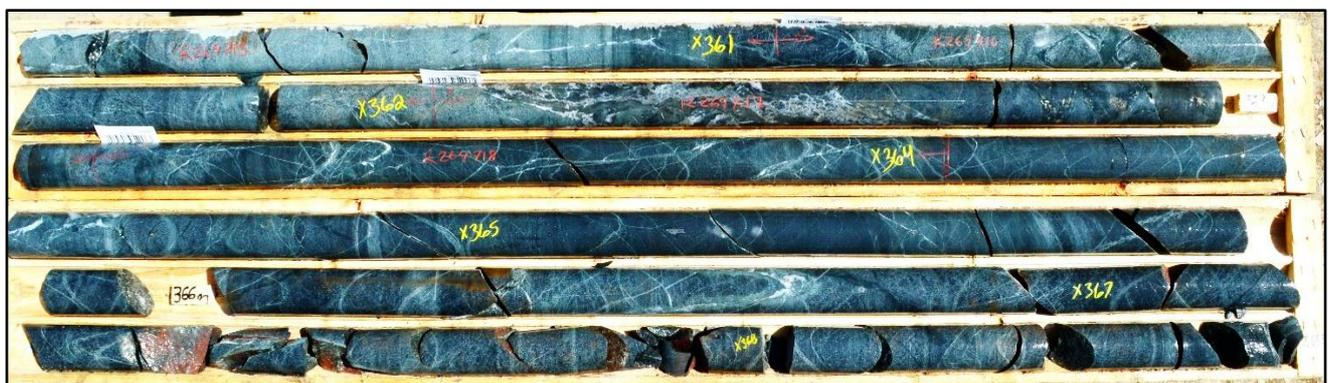
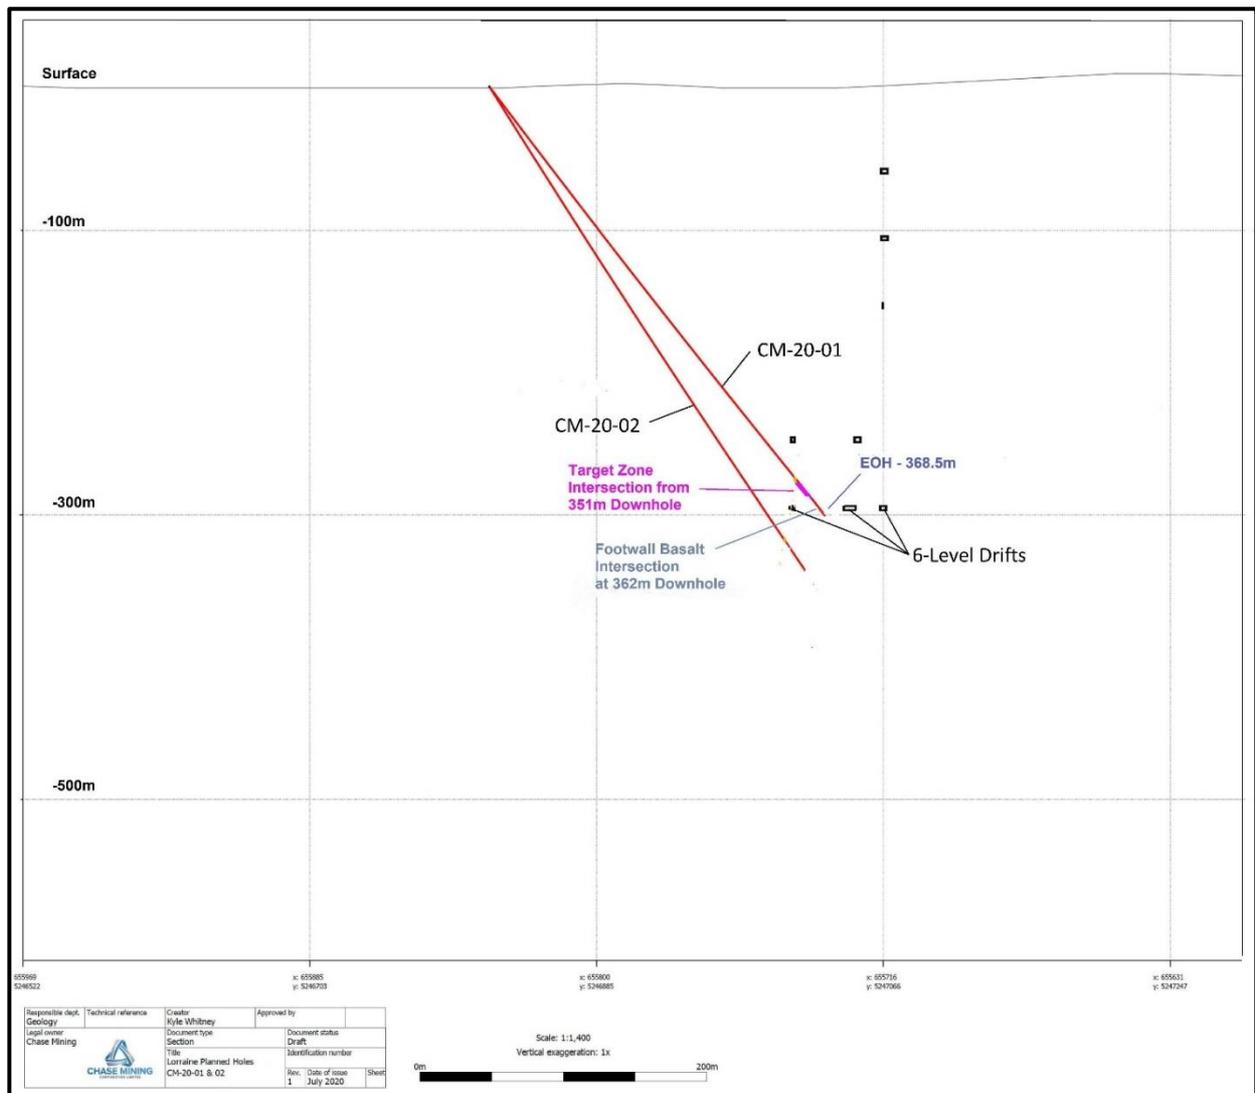

Figure 3: 8-Metre quartz-carbonate breccia in footwall basalt ~360m to ~368m downhole, as detailed at 362.4m in Figure 4.
Figure 5: CM-20-01- schematic drill section
- A second ~8m wide downhole zone of brecciation with increased pyrite-pyrrhotite-chalcocopyrite aggregates at 362m (Figure 3) was intersected in footwall basalt from ~360m downhole, approximately 7m below the target zone (Figure 5);
Diamond drillhole **CM-20-01** was successfully completed at 368.5m (**Figure 5**). The hole intersected the targeted contact shear zone over ~4m from 351.5m downhole including a quartz-carbonate-fuchsite vein with aggregates of pyrite-pyrrhotite-chalcopyrite at 353.4m. (Figures 1 and 2).
An 8-metre wide (second) zone of brecciation with increased pyrite-pyrrhotite-chalcopyrite aggregates at 362m downhole was intersected from 360m downhole (Figure 3). This zone of brecciation / crack-seal veining is ~7m below the Target Zone as shown in Figure 5.